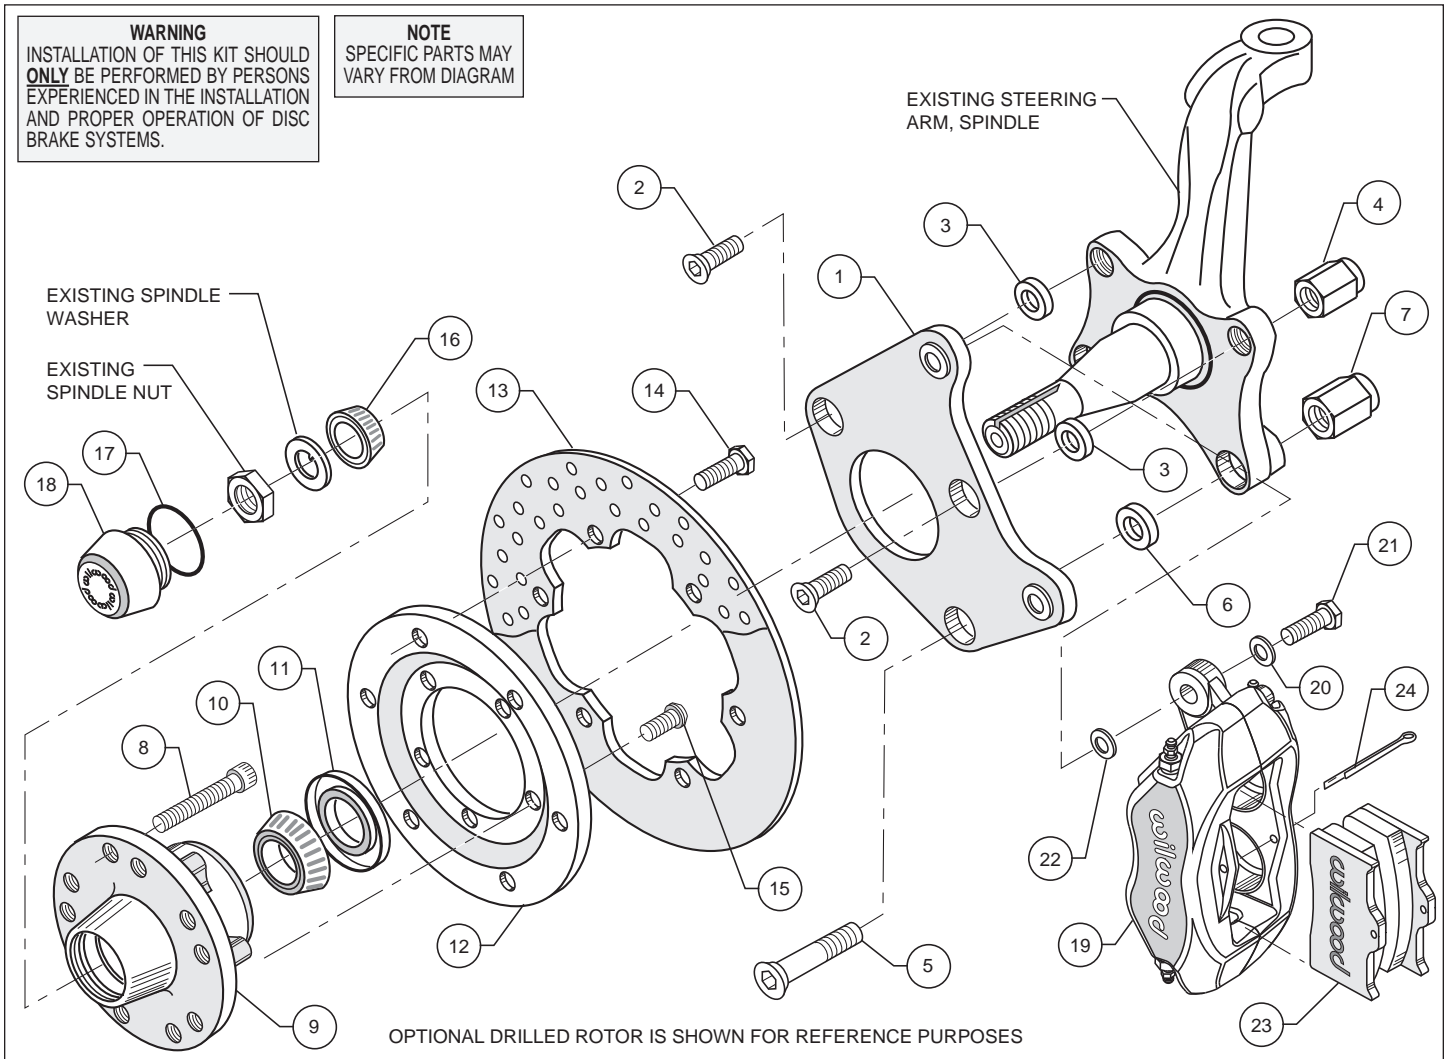

Figure 1. Typical Configuration, Drum Spindle
- Mount the adapter/rotor assembly (12/13) to the hub (9) using bolts (5) (finger tight), as shown in Figure 1. Using an alternating sequence, remove bolts one at a time, apply red *Loctite*® 271 to the threads, and torque to 55 ft-lb.